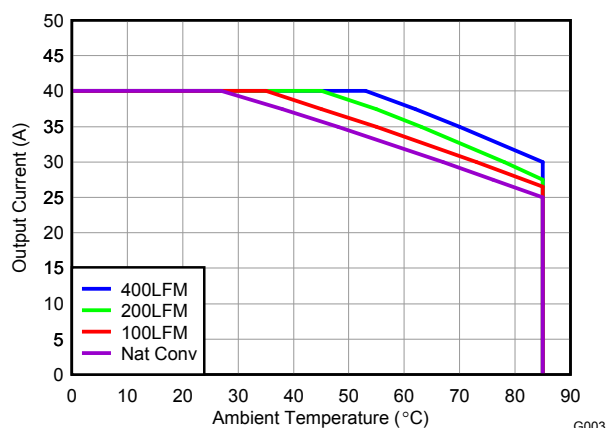
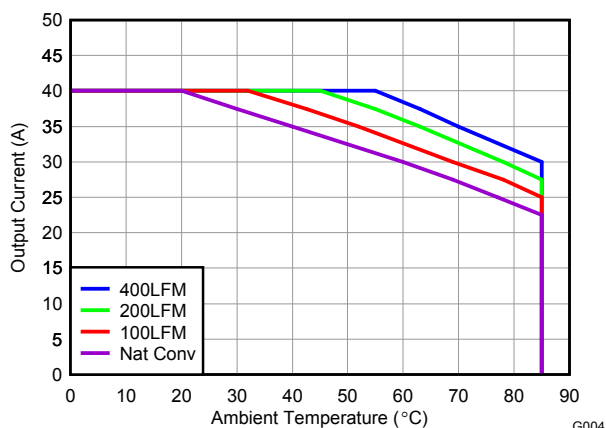
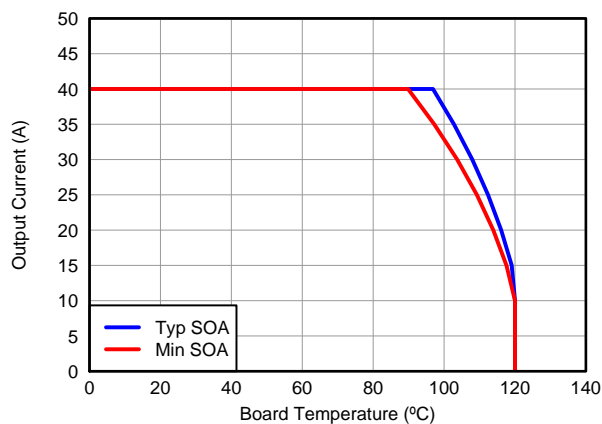

Figure 9. Safe Operating Area – PCB Vertical Mount ⁽¹⁾
Figure 10. Safe Operating Area – PCB Horizontal Mount ⁽¹⁾
Figure 11. Typical and Min Safe Operating Area ⁽¹⁾
The SOA curves in the CSD97370Q5M datasheet give engineers guidance on the temperature boundaries within an operating system by incorporating the thermal resistance and system power loss. Figure 9, Figure 10, and Figure 11 outline the temperature and airflow conditions required for a given load current. The area under the curve dictates the safe operating area. All the curves are based on measurements made on a PCB design with dimensions of 4.0" (W) x 3.5" (L) x 0.062" (T) and 6 copper layers of 1 oz. copper thickness.